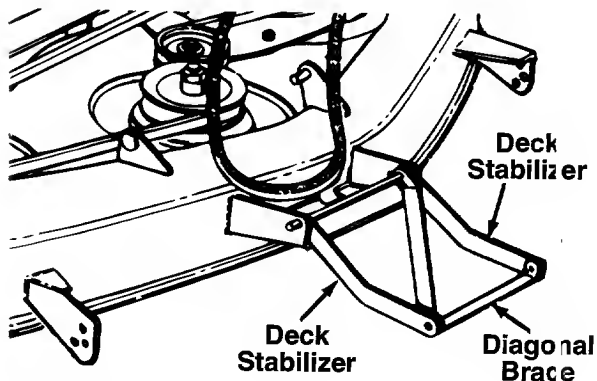

FIGURE 13.
3. The two deck stabilizers and the diagonal brace which are attached to the front of the deck are folded back over the deck for shipping purposes. Unfold them at this time. See figure 13.